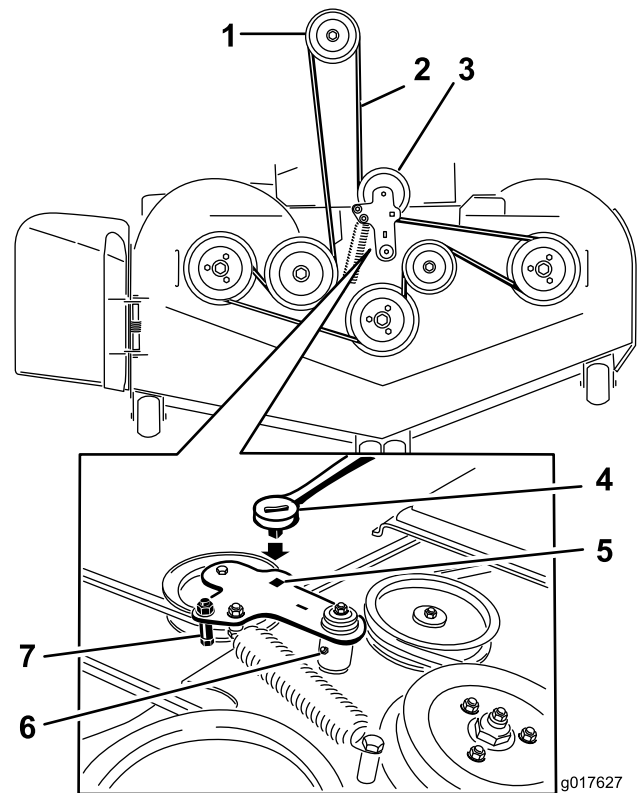

Figure 82
5. Lift up the floor pan and insert a ratchet into the square hole in the deck idler (Figure 82).
6. Rotate the deck idler clockwise and remove the mower belt (Figure 82).